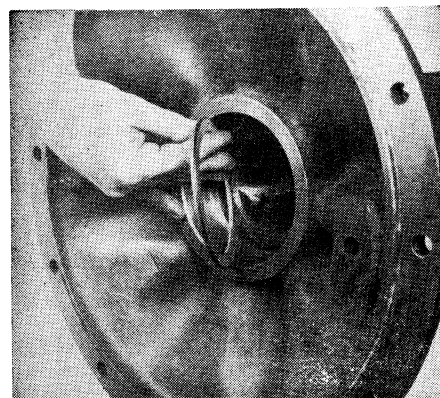

Fig. 111 Installing differential bearing spacer
2. Install differential bearing spacers, Fig. 111, in the original position if new bearing cups are installed. Spacers must be installed with the chamfered edge toward the machined surfaces in the housing.